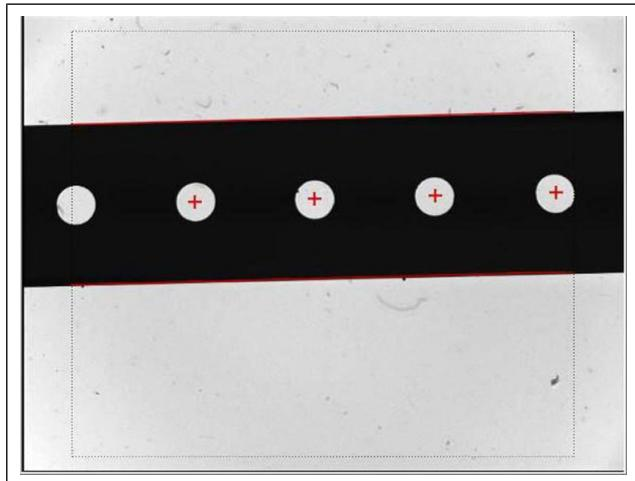

Fig. 14. Reference tool 1 inserted into the cell.
2. When using the reference tool 1, wash it for example with a dishwashing liquid (this will reduce the number of air bubbles). Insert the reference tool or a small amount of fibers inside the measurement cell (Fig. 14). Move the tool back and forth until all air bubbles trapped in its holes disappear.